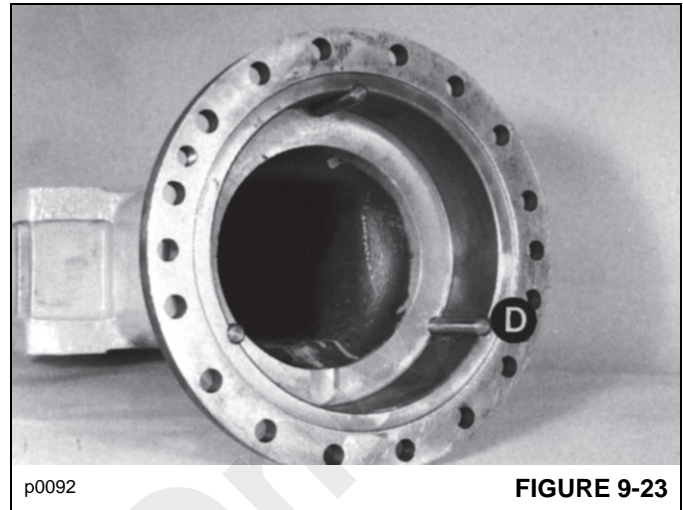

FIGURE 9-23
4. Locate the three reaction pins D Figure 9-23 into their grooves, securing them with grease. Push the pins fully into their location holes in the housing.